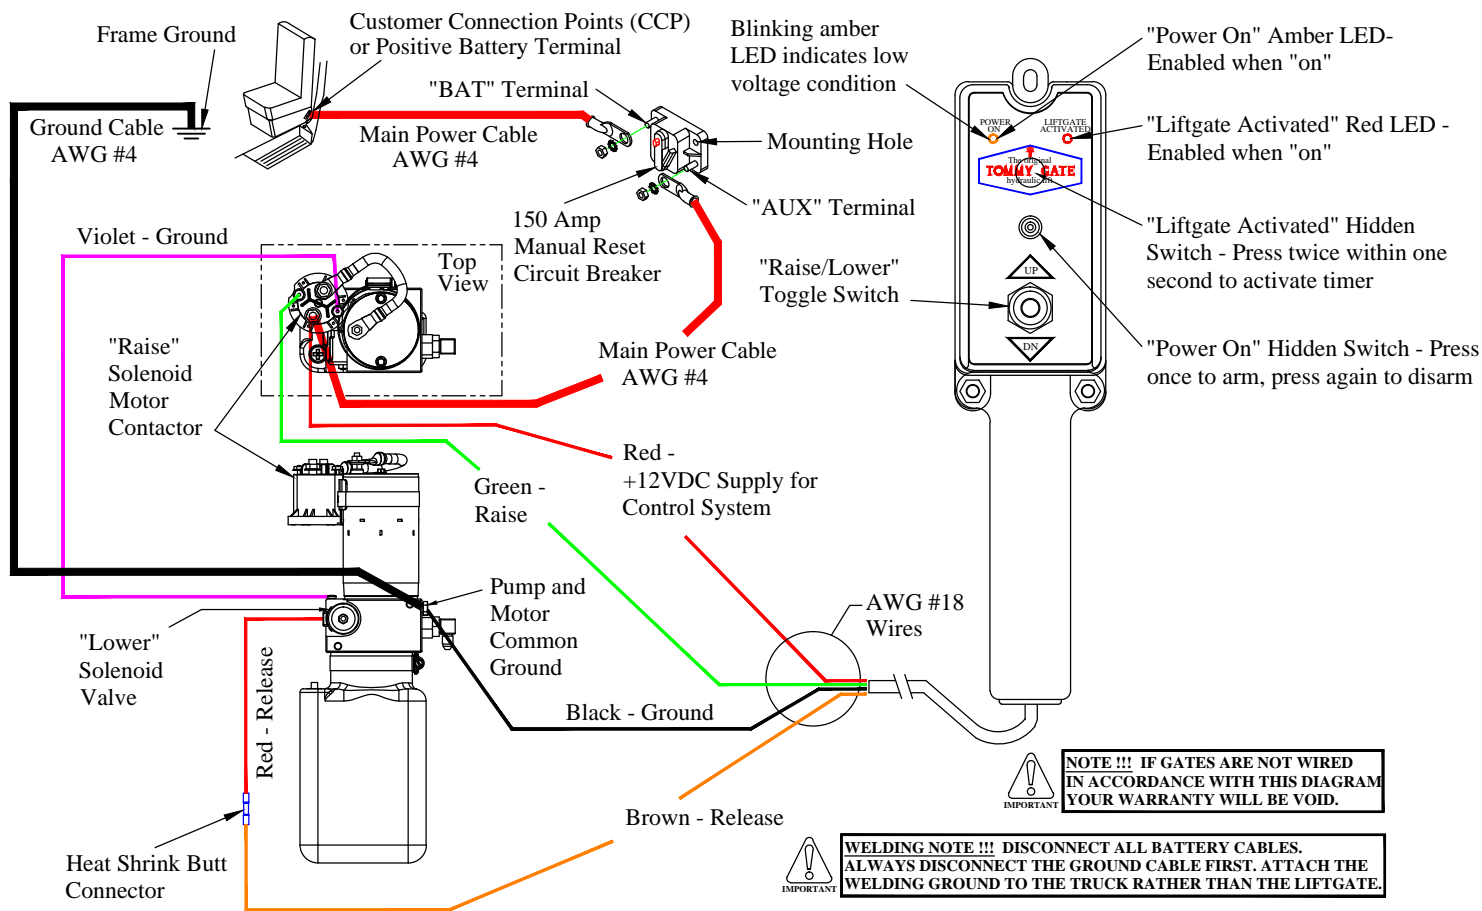

Figure 20: Wiring Diagram.
Note: Follow the *Tommy Gate Recommended Electrical Wiring Guidelines* and wiring diagram (Figure 20) in the following steps.
24. **Push** the hidden "Power On" switch (Figure 20). The amber "Power On" LED will illuminate.